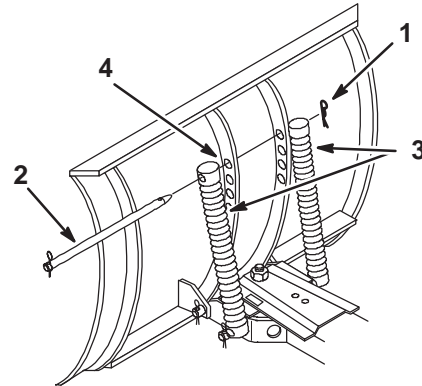

Figure 19
The blade trip springs can be mounted in four positions. The top hole provides the greatest scraping pressure and the bottom hole provides the least scraping pressure (Fig. 19).
1. Remove the hairpin cotter and slide the rod from the blade and springs (Fig. 19).
2. Slide the rod through the springs and the new hole position in the blade (Fig. 19).